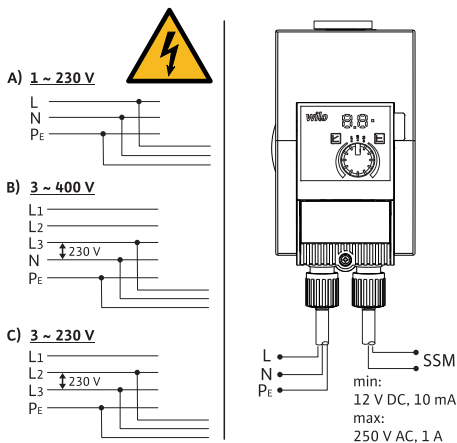

Fig. 3: Connection options
- Connect to 230 V low-voltage networks. When connecting to IT networks (Isolé Terre electrical system), always make sure that the voltage between the live wires (L1–L2, L2–L3, L3–L1 → Fig. 3) does not exceed 230 V.